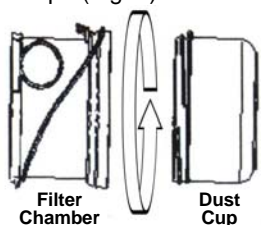

Fig.8
3. Rotate the lower dust cup counter clockwise to separate it from the filter chamber. Empty and clean the dust cup. (Fig. 8)